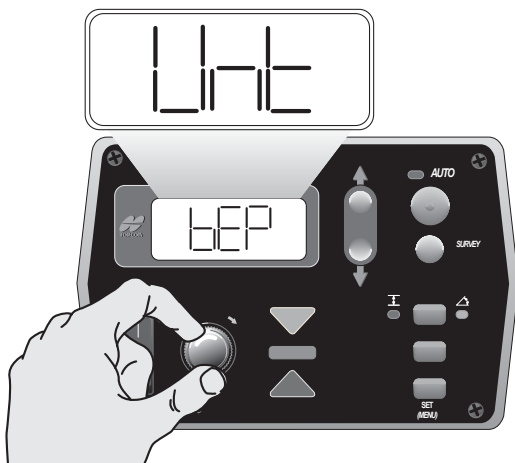

Figure 4-21. Scrolling through the Performance Menu
2. Rotate the Grade Adjustment Knob to scroll through the menu selections located on the LCD (Figure 4-21).